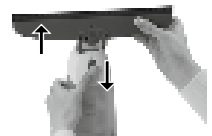

Figure 11:
- Release the suction nozzle (see figure 11) and clean both nozzle and rubber lip under flowing water.